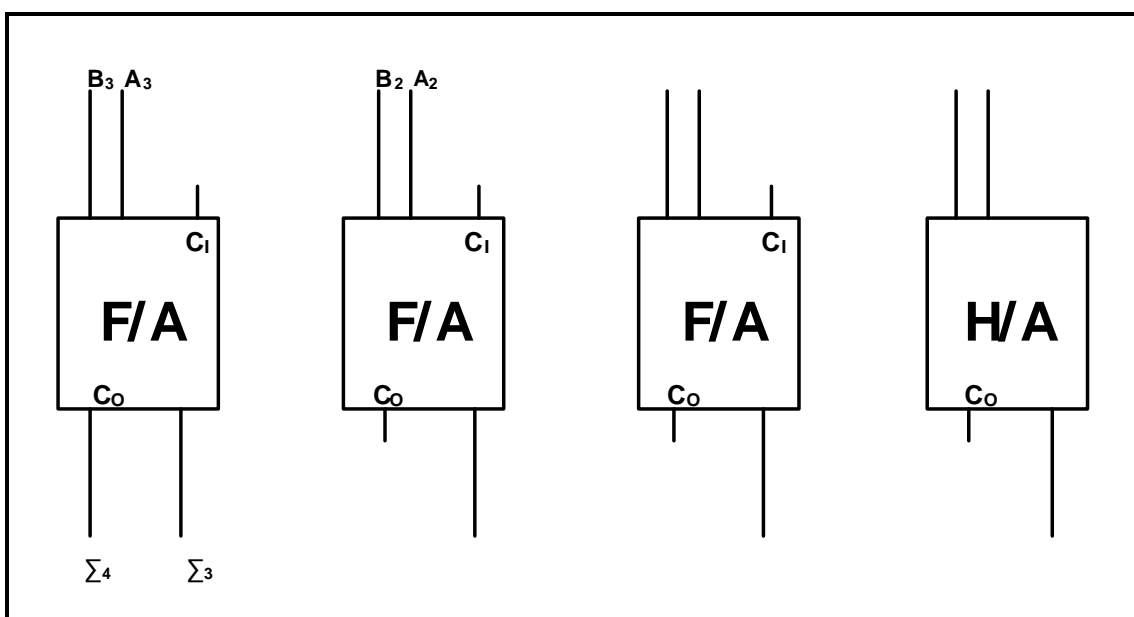

FIGURE 4.4: 4-BIT PARALLEL ADDER
- 4.4 FIGURE 4.4 below represents an incomplete block diagram of a 4-bit parallel adder. Complete and label the diagram of this adder on the ANSWER SHEET for QUESTION 4.4. (8)